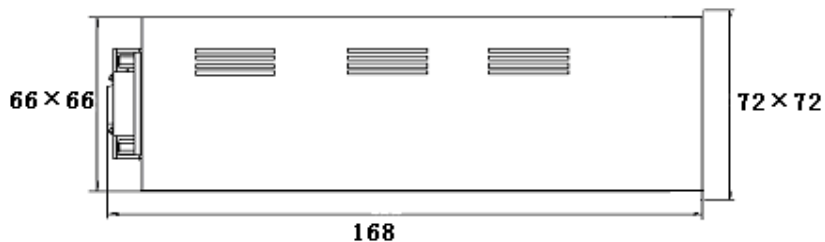

Figure1. Dimensions of D08-8C
4.1 Dimensions: It used standard plastic chassis, as showing in figure 1: